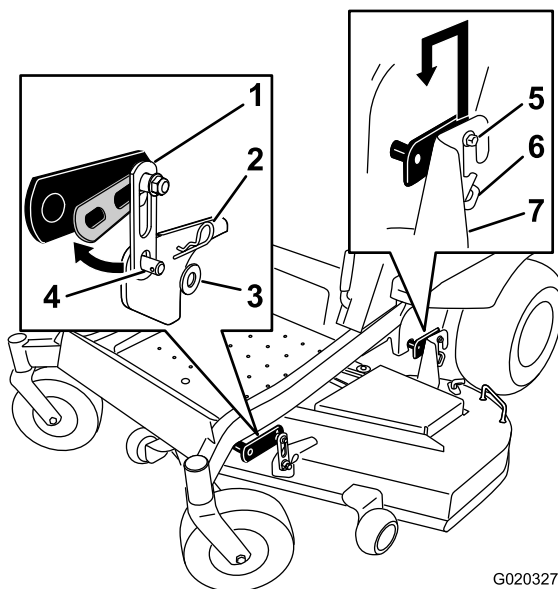

Figure 72
2. Remove the hardware from the front deck hangers on both sides of the deck (Figure 72).
3. Carefully lift the deck off the rear hanger bolts and lower the front of the mower deck to the ground (Figure 72).
6. Lift the rear of the mower deck and guide the hanger brackets over the rear hanger bolts (Figure 72).
7. Attach the front support on the mower deck to the front deck hangers, and secure them with a washer and hairpin cotter (Figure 72).